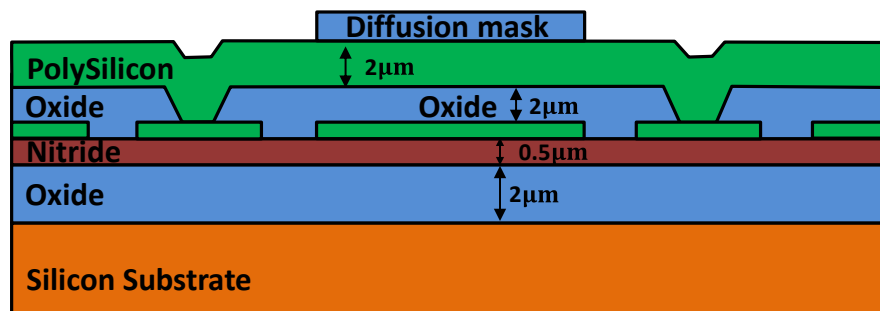

Fig. PS2.2-3
- (g) A diffusion mask can help selectively dope certain areas in the polysilicon film. Ideally, by using a diffusion mask as shown in Figure PS2.2-3, the area underneath the diffusion mask will not be doped. However, in reality, lateral diffusion compromises the selectivity of this doping method. Calculate the lateral distance from the edges of the diffusion mask where the dopant concentration drops to 0.1% of the surface dopant concentration. (Assume the selective diffusion experiences the same pre-deposition and drive-in steps, i.e., pre-deposition alongside solid-source boron wafers for 30min at 1000°C, and drive-in with no boron source for 60min at the same temperature.)